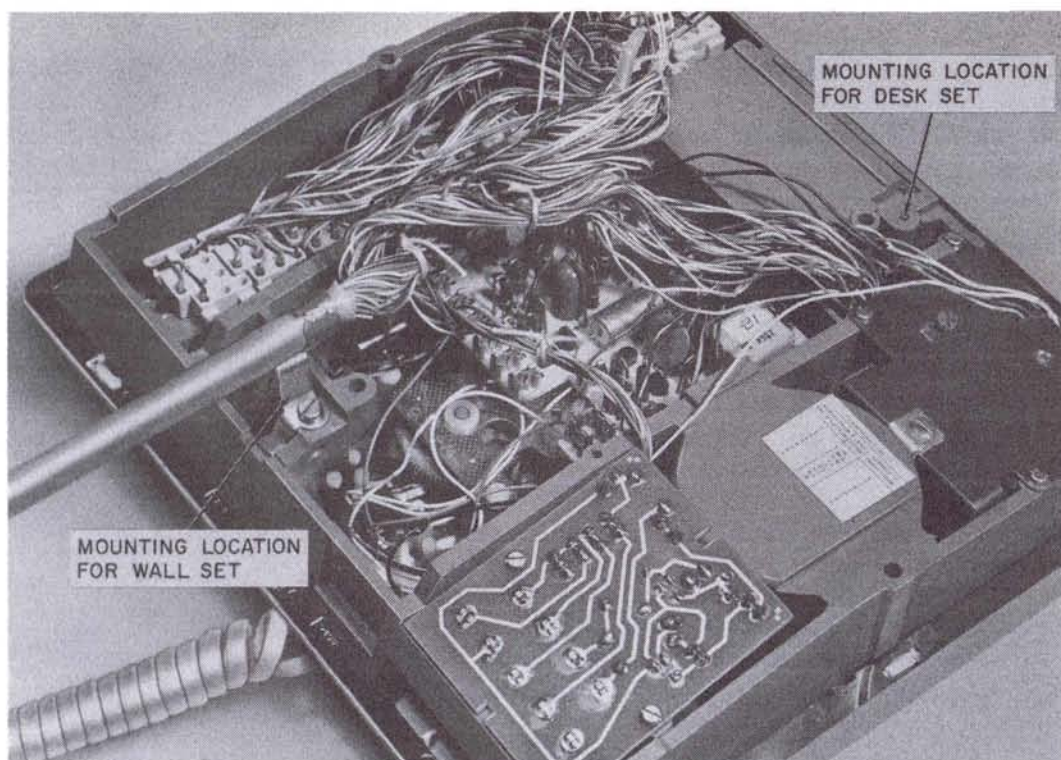
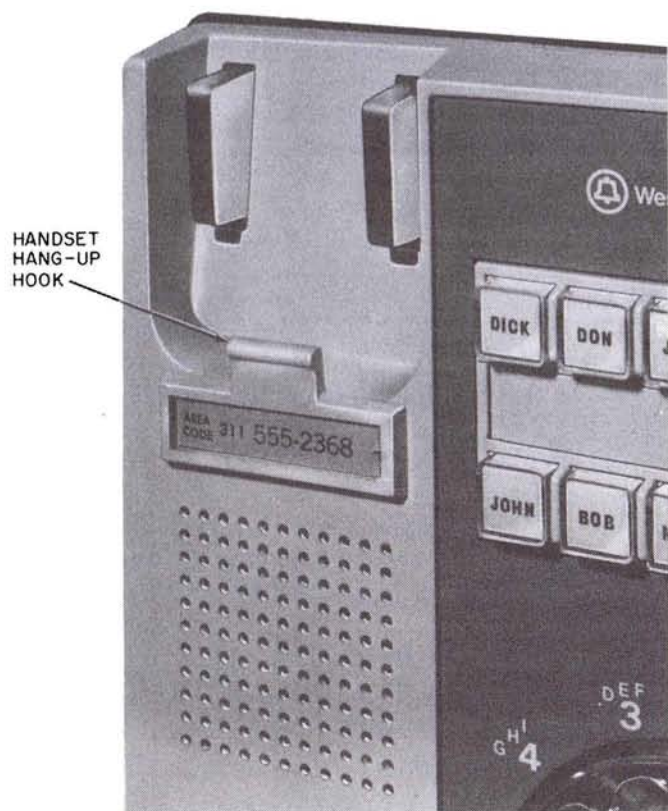

Fig. 8—Set Modification For Wall Mounting
Fig. 9—Handset Hook Attachment For Wall Set
- (1) Loosen four screws and remove the lower housing.
- (2) Remove screw holding mounting cord attachment bracket at rear of set.
- (3) Refasten bracket using screw in the position shown in Fig. 8.
- (4) Rotate the lower housing 180 degrees from the desk model position and fasten housing to base.
- (5) If plastic designation card cover has been installed, remove cover using a KS-16750 releaser, then remove screw from recess and discard screw.
- (6) Install plastic handset hook (Fig. 9) from the D-180658 kit of parts using longer screw also furnished with kit.
- (7) ♦Replace plastic designation card cover.♦